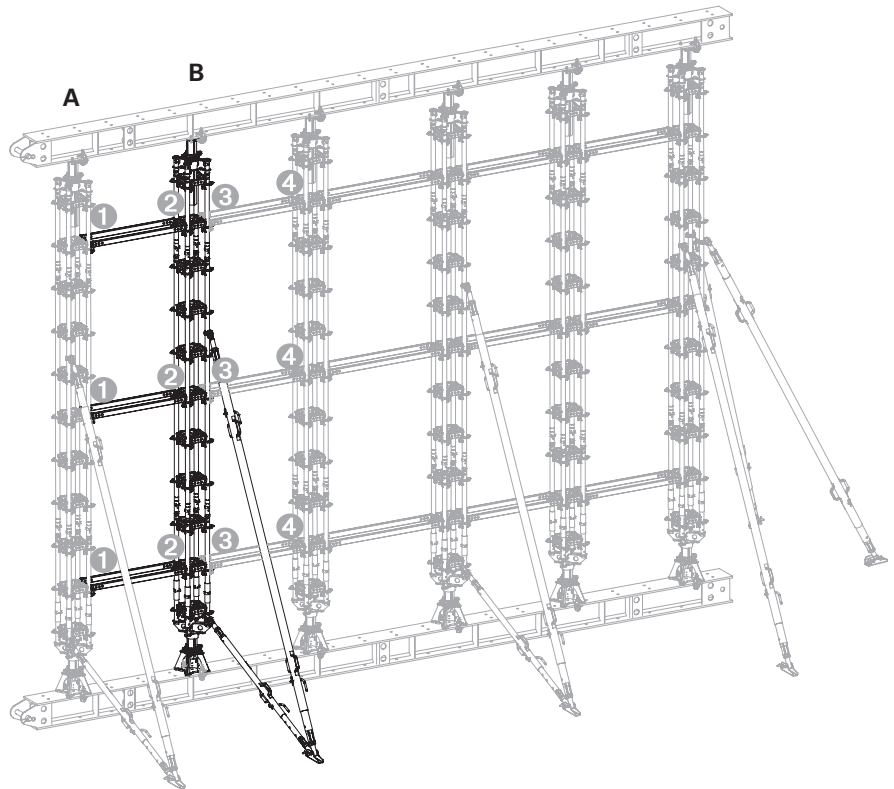

Fig. A7.02
5. Hammer wedges ① into place. (Fig. A7.02)
6. Release wedges ⑤.